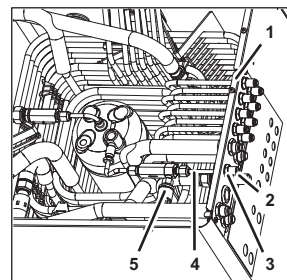

Figure 71
6. Disconnect the electrical cables from the CO₂ pressure switch (Figure 71/5).
7. Remove the nut (Figure 71/3) of the CO₂-IN connection (Figure 71/2) from the connecting plate (Figure 71/1).
8. Lift the CO₂-IN line (Figure 71/4) out of the unit.
31. Position the CO₂-IN line (Figure 71/4) within the unit.
32. Attach the nut (Figure 71/3) of the CO₂-IN connection (Figure 71/2) to the connecting plate (Figure 71/1).
33. Connect the electrical cables to the CO₂ pressure switch (Figure 71/5).